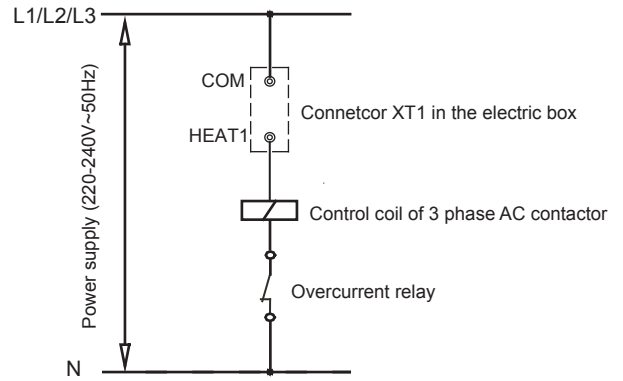

Fig. 8-22-2
- Step 10. MC-SU90-RN1L connection of control wires of pipeline auxiliary electric heaters: the control wires of AC contactor of the pipeline auxiliary electric heater must pass the connection terminals HEAT1 and COM of the connector XT1 in the electric box of the unit, as shown in Fig. 8-22-2.